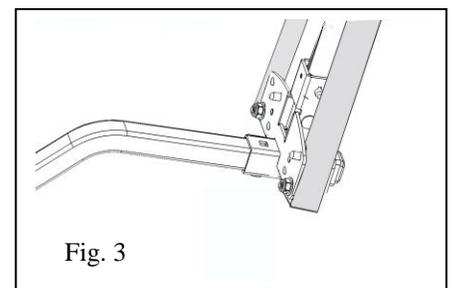

Fig. 3
3. Align holes of main frame with holes of the receiver tube per Fig. 3.